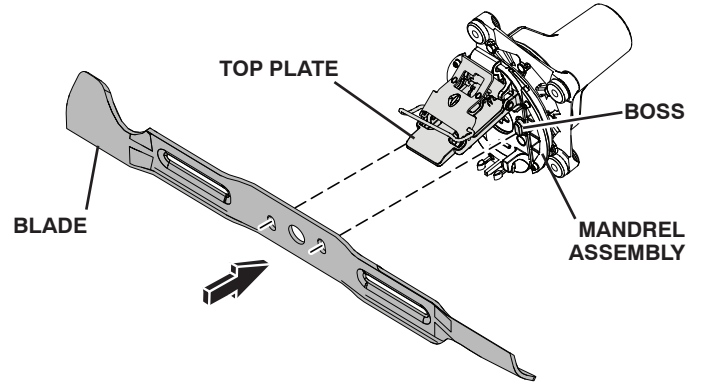

Fig. 33
- Align bosses and insert blade. (See Fig. 33.)